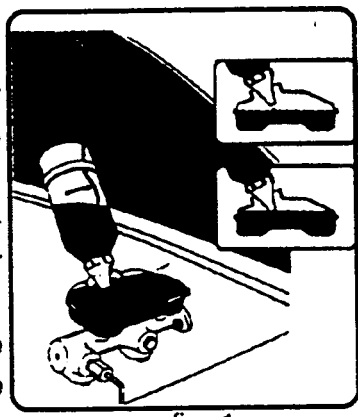

fig. 1
2. Put the magnet in the bonnet and place the container upside-down in the vehicle's brake fluid reservoir (fig. 1).